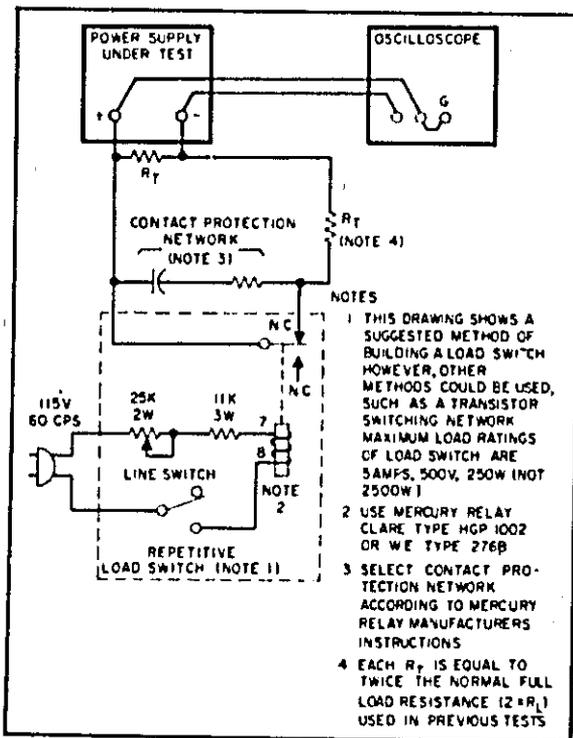

Figure 5-5. Load Transient Recovery Time, Test Setup
**5-30 Measurement Techniques.** Care must be taken in switching the load resistance on and off. A hand-operated switch in series with the load is not adequate since the resulting one-shot displays are difficult to observe on most oscilloscopes and the arc energy occurring during switching completely masks the display with a noise burst. Transistor load switching devices are expensive if reasonably rapid load current changes are to be achieved. Instead, a mercury-wetted relay should be used for loading and unloading the supply. Connect it in the load switching circuit shown in Figure 5-5. When this load switch is connected to a 60 Hz ac input, the mercury-wetted relay will open and close 60 times per second. The 25K control adjusts the duty cycle of the load current switching to reduce jitter in the oscilloscope display. This relay may also be used with a 50 Hz ac input.
a. Connect the test setup shown in Figure 5-5. Both load resistors ( $R_T$ ) are twice the normal value of a full load resistance.